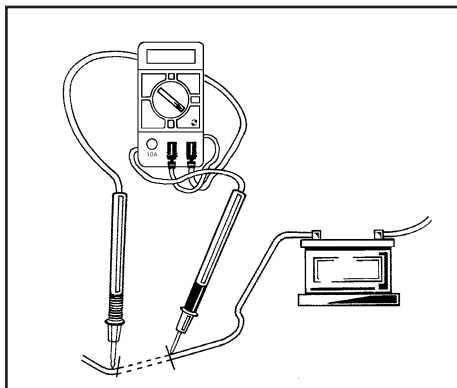

FIG.1
8.2 CURRENT MEASUREMENT - FIG.1